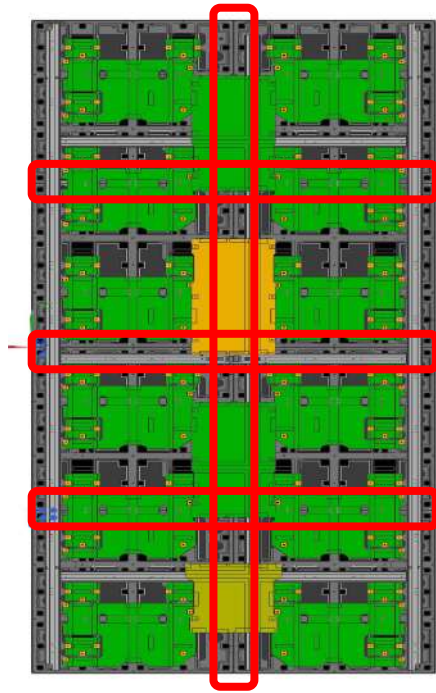

Fig1. LED module gap adjustment area
③ What should be done when there is a gap between the LEDs (2x3) in the cabinet
- if there is a gap, screw the area of Figure 1 to adjust the height of the low part to the high part.